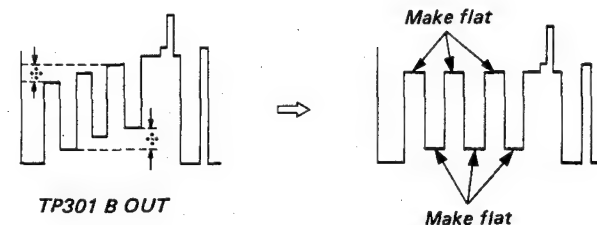

Fig. 21-1
6. Adjust RV8 of BB board so that the output waveform is 8 DIV as shown in Fig. 21-1.